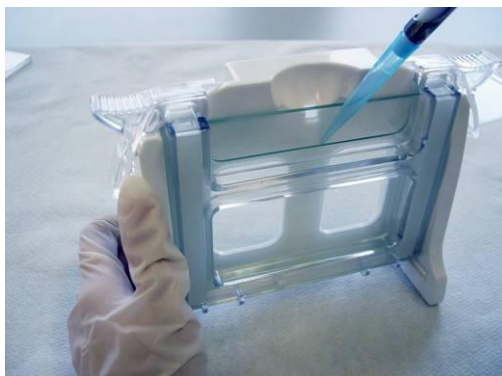
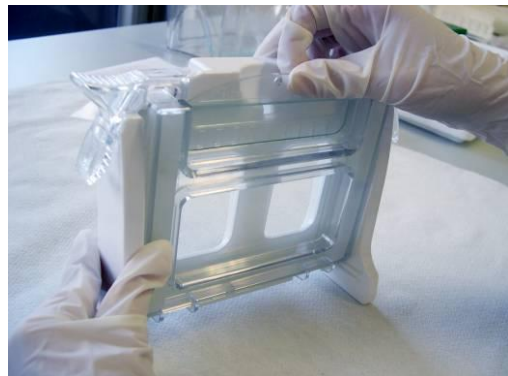

Figure 6. *Pour the resolving gel into the space between the glass plates. Place the pipette in the middle of the plates.*
Figure 7. *After the stacking gel has been poured, gently insert the comb, making sure no air bubbles are trapped.*
- Prepare a 12% SDS-PAGE gel with 5 ml of the resolving gel solution (*fig. 6*) and then pipet 1 ml EtOH into the assembled casting module. Wait for the gel to polymerize for 60 minutes. While applying the solution into the space between the glass plate sandwiches, place the tip directly in between the glass plates. Slowly discharge the tip in order to minimize bubbles forming. After polymerization, remove the EtOH and pour in the prepared stacking gel solution on top of the polymerized resolving gel. Gently insert 0.75 mm 10 well comb into the space between the plates. Make sure there is no air bubbles trapped inside (*fig. 7*). Let the stacking gel polymerize for 60 minutes.